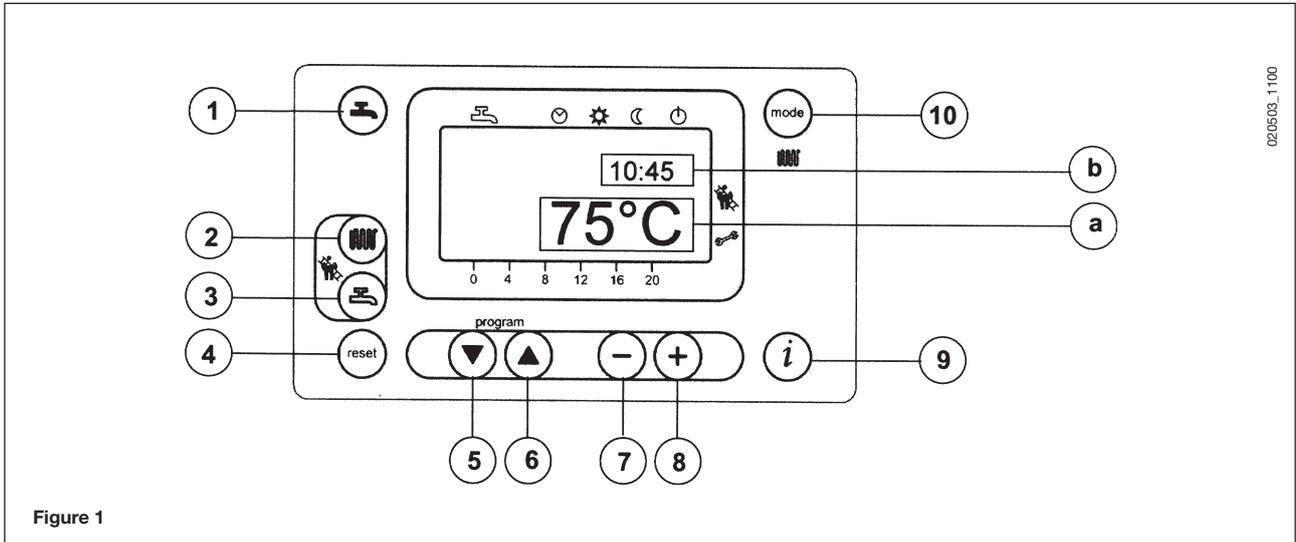

Figure 1
- Press the mode key (2-figure 1) to set the central heating water temperature;
- press either of the mode mode keys (1 or 10 - figure 1) to save and return to the main menu.
N.b – With the outdoor sensor probe connected, the mode key (2 - figure 1) can be used to shift the central heating curve. Press the $-$ $+$ keys to decrease or increase the room temperature in the premises to be heated.
- Press the mode key (3-figure 1) to set the maximum domestic hot water temperature;
The fault warnings appear on the main display (figure 1 a) together with the  symbol (Figure 4). To reset, press the reset  button for at least two seconds.